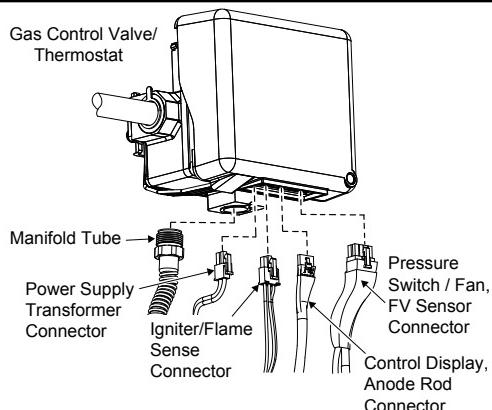

FIGURE 35.
4. Disconnect all wiring connectors from the gas control valve/thermostat (Figure 35). Disconnect the manifold tube at the gas control valve/thermostat.
7. Reconnect the flame sense/hot surface igniter wire to the gas control valve/thermostat (Figure 35).
- Disconnect the flame sense/hot surface igniter wire, power supply transformer, pressure switch/fan and display connector wires from the thermostat (Figure 35). Disconnect the manifold tube at the thermostat (Figure 35).
- Reconnect the manifold tube, flame sense/hot surface igniter wire, power supply transformer, pressure switch/fan and display connector wires (Figure 35).